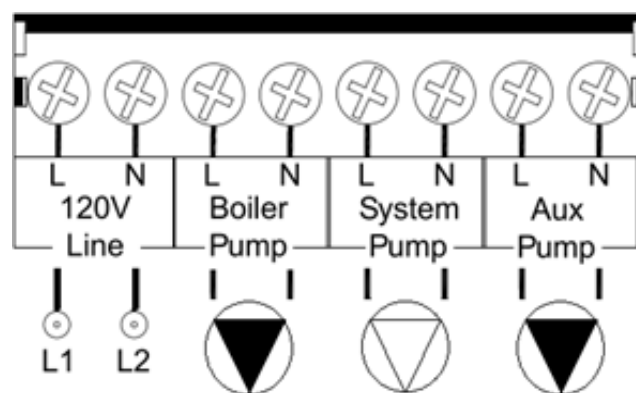

Figure 9-4: Typical Boiler 120V Connections
4. Ensure IWH pump's maximum amp draw does not exceed boiler's auxiliary connection amp rating. Figure 9-4 shows a typical boiler field connection with auxiliary pump connection.